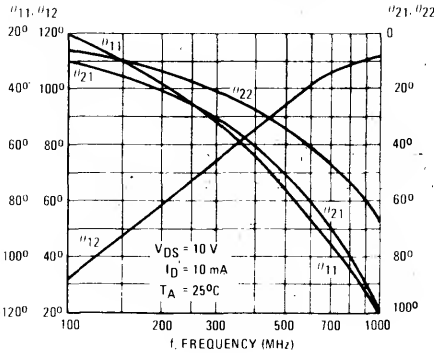

FIGURE 10 – NOISE FIGURE and
(1) Pulse test duration = 2.0 ms.
(2) See Figures 10 and 11 for Noise Figure and Power Gain information.